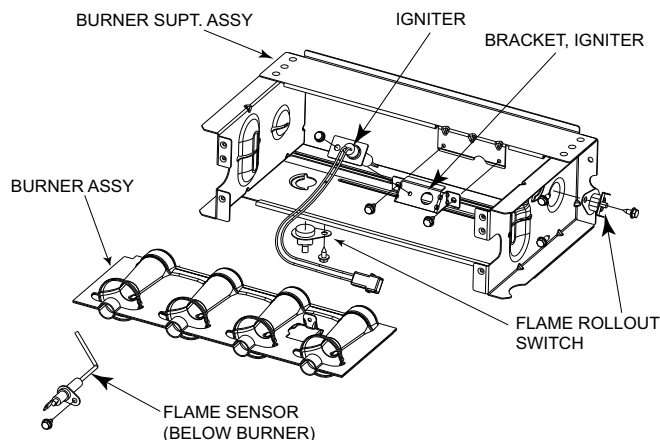
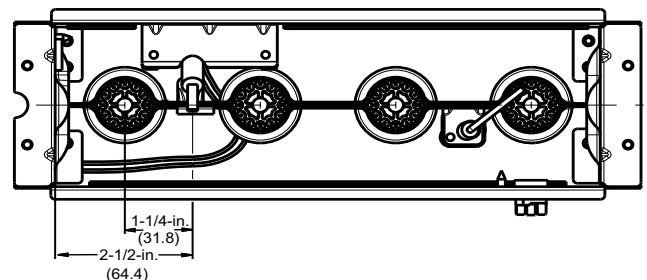
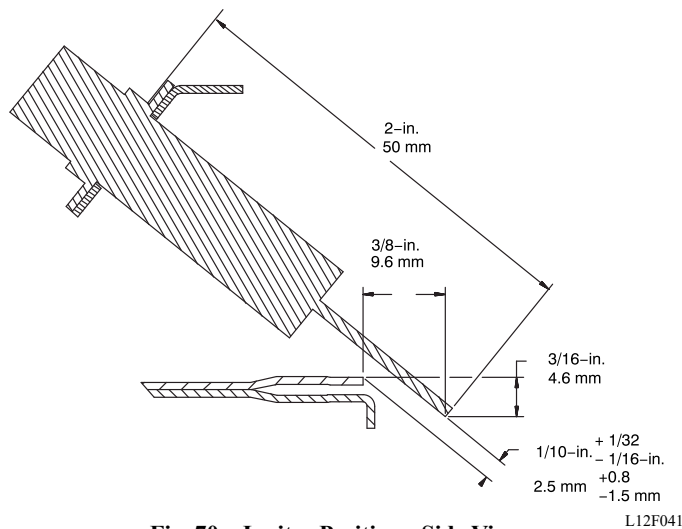

Fig. 68 – Burner Assembly
Fig. 69 – Igniter Position - Top View
Fig. 70 – Igniter Position - Side View
Refer to Fig. 68.
8. Check the igniter alignment, see Fig. 68, Fig. 69 and Fig. 70.
The igniter does **NOT** require annual inspection. Check igniter resistance before removal, see Fig. 68, Fig. 69 and Fig. 70.
- a. Using a 1/4-in. driver, remove the two screws securing the igniter mounting bracket to the burner assembly See Fig. 68.
6. To replace igniter and bracket assembly, reverse items 5a through 5d.
7. Reconnect igniter harness to the igniter, dressing the igniter wires to ensure there is no tension on the igniter itself, see Fig. 68.